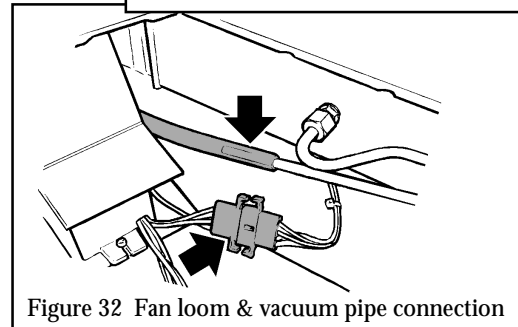

Figure 32 Fan loom & vacuum pipe connection
14.9.3 Detach the fan wiring loom connection. (see figure 32).
14.9.4 Detach the plastic vacuum tube from the metal vacuum pipe (see figure 32).